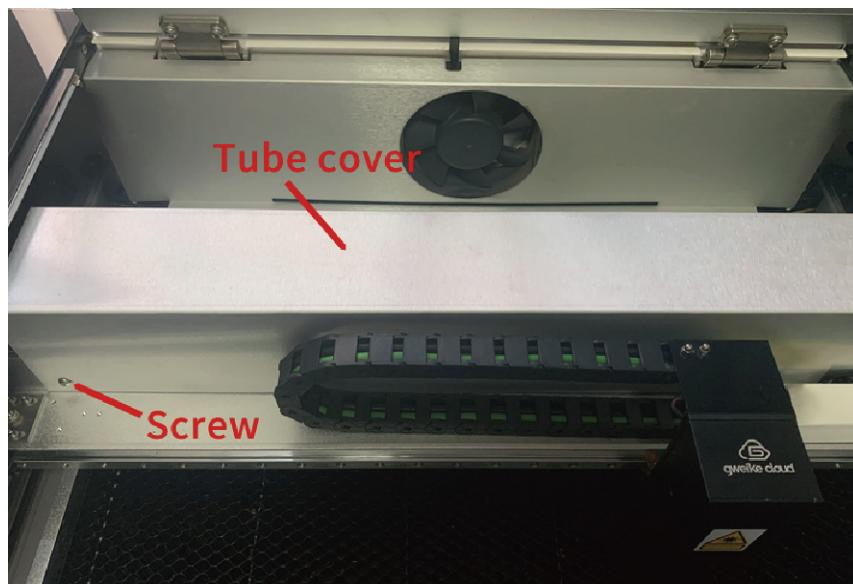

Figure25
① Unscrew the screws on the front and back of the tube cover, and remove the tube cover (Figure 25)